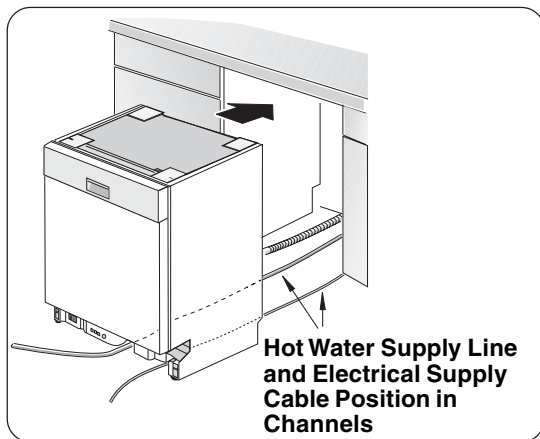

Figure 19
- 2 Position the dishwasher close enough to the enclosure so that you can run the dishwasher drain hose to the under sink drain connection. Make certain that the hot water supply line and the electrical supply cable are in their channels under the dishwasher base, as shown in **Figure 19**.